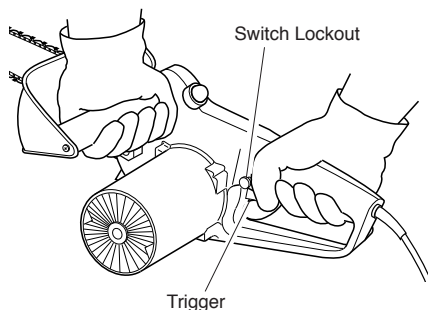

Figure 8 - Switch Lockout and Trigger Location
3. Use both hands to grip saw. Always use left hand to grip front handle and right hand to grip rear handle. Use firm grip. Thumbs and fingers must wrap around saw handles (see Figure 8, page 11).
5. When ready to make a cut, press in switch lock-out with right thumb and squeeze trigger (see Figure 8, page 11). This will turn saw on. Releasing trigger will turn saw off. Make sure saw is running at full speed before starting a cut.